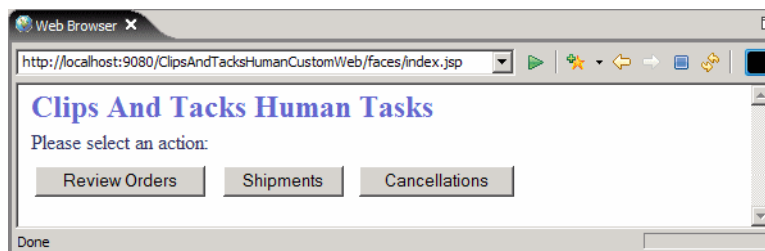

Figure 9-53 Human task application: Home
- ▶ The human task application starts with the home page (Figure 9-53).